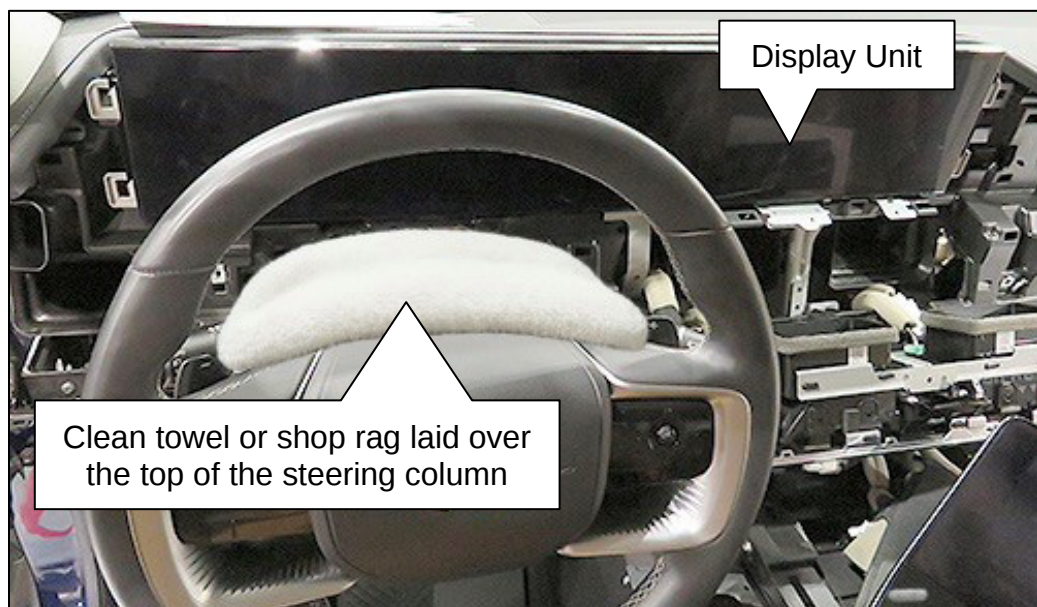

Figure 2
4. Lay a clean towel or shop rag over the top of the steering column to protect the front of the Display Unit from damage (Figure 2).